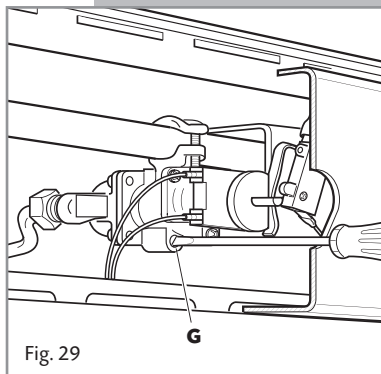

Fig. 29
- Remove the thermostat knob and by means of a thin screwdriver pass by the hole in the fascia panel to unscrew of 3 turns the by-pass screw **G** (fig. 29).
- Slowly tighten the by-pass screw **G** (fig. 29) until you get a flame of 3-4 mm long.